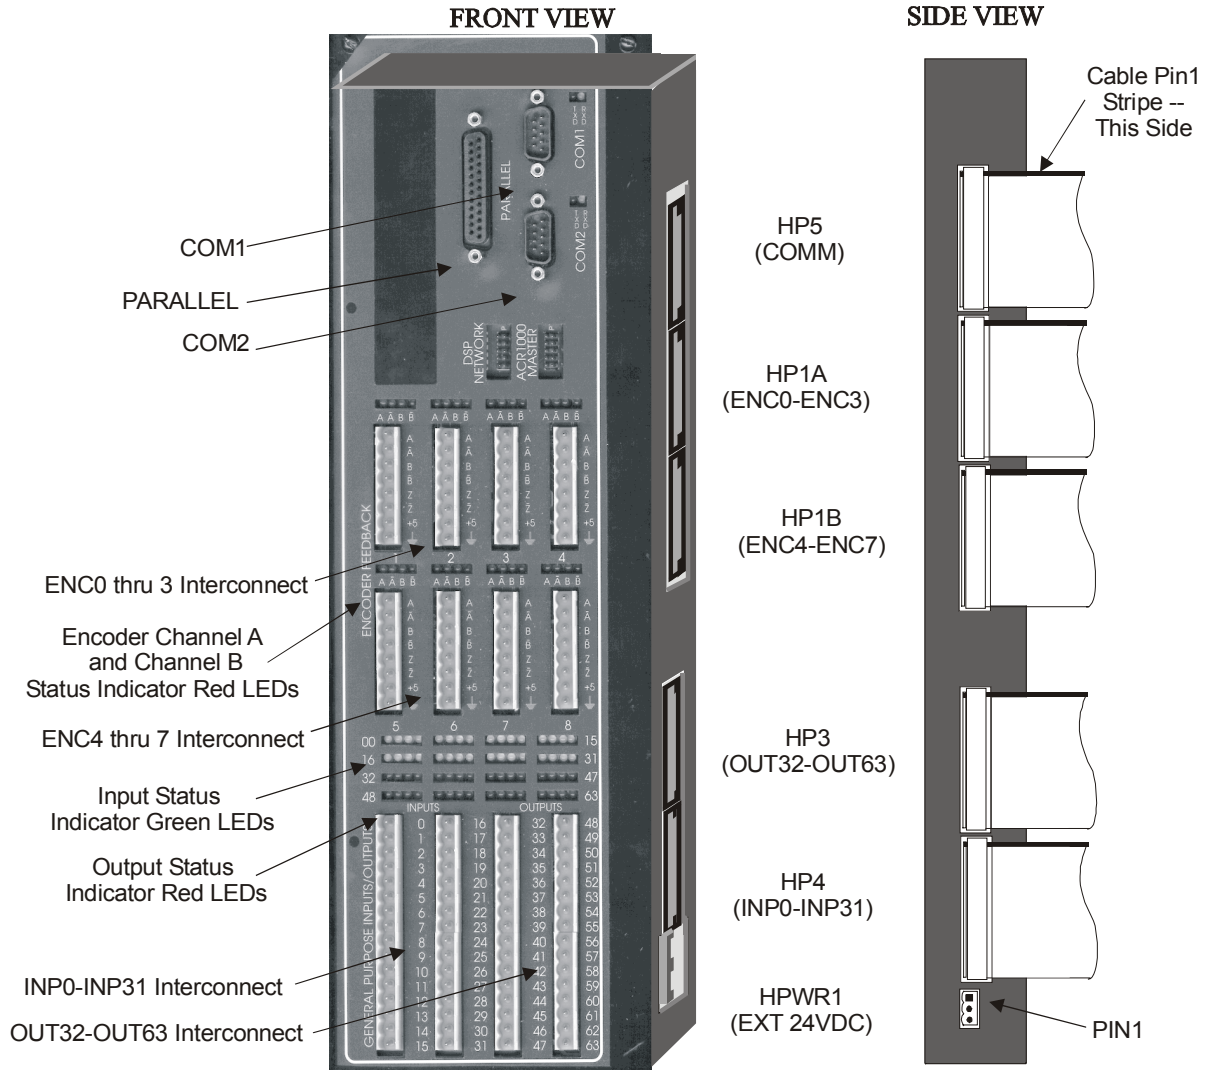

Figure 1. Breakout Box Connections
There are two 34-pin headers provided on the Breakout Box to supply encoder feedback signals to an Acroloop Motion Control Card. The two 34 pin headers provide up to eight (8) axes of encoder feedback (Encoders 0 thru 7). Refer to Figure 1 for ribbon cable connection location.
There are two 34-pin headers provided on the Breakout Box to interface Digital I/O signals to an Acroloop Motion Control Card. The 34 pin headers are used for the 32 Digital Inputs and 32 Digital Outputs. Refer to Figure 1 for connector location.
There is one 34-pin header provided on the Breakout Box for the 2 serial and 1 parallel communications ports interfacing to an Acroloop Motion Control Card. Refer to Figure 1 for connector location.
HPWR is the connection for the user supplied voltage for the Digital Input and Digital Output Status LED's and should be wired to VEXT as shown in the table below. Refer to Figure 1 for connector location.
There are two standard DB-9 male connectors provided on the Breakout Box to interface to user serial communication ports. Refer to Figure 1 for connector location.
There is one standard DB-25 female connector provided on the Breakout Box to interface to user parallel communication ports. Refer to Figure 1 for connector location.